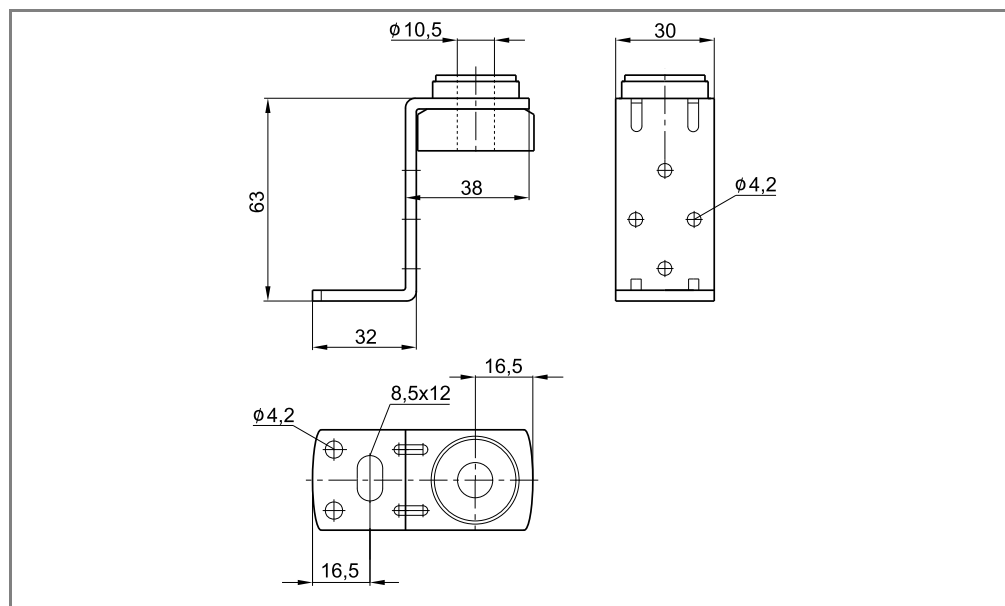

Fig. 4-6: Dimensions of angle brackets in mounting kit 46Z
- 4 angle brackets (see fig. 4-6)